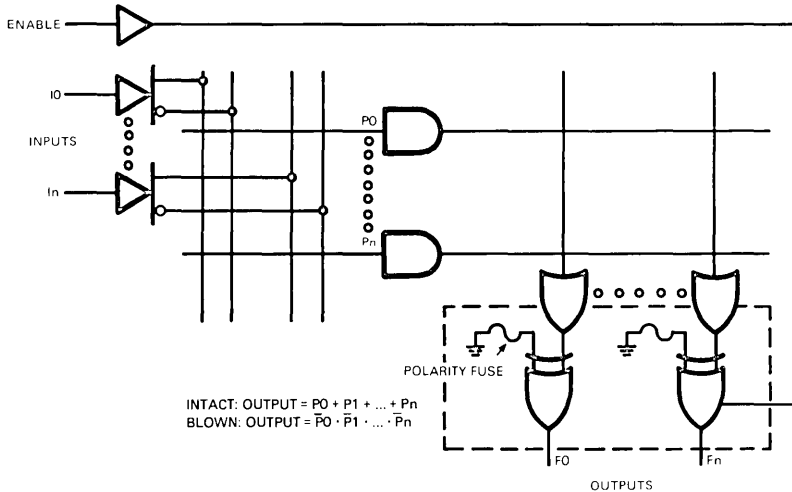

FIGURE 13
- POLARITY SELECT - Circuitry provides a polarity select fuse for each FPLA output. The function of these fuses is shown in Figure 13.